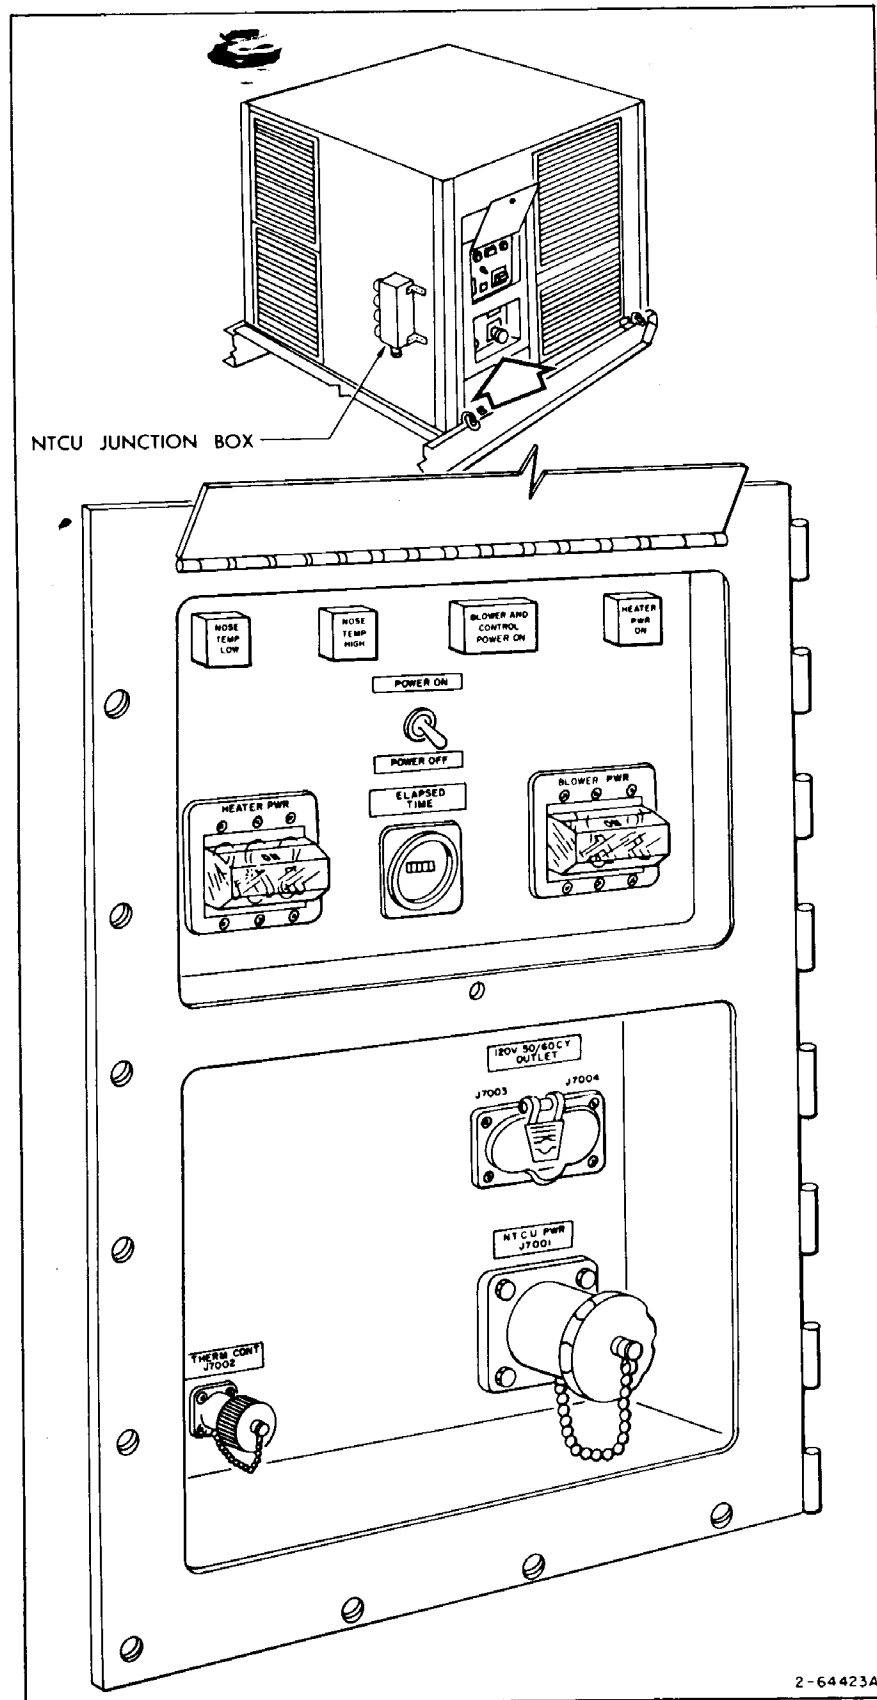

Figure 3-25. Nose Temperature Control Unit
3-81. SHUTTING DOWN NTCU. (See figure 3-25.)
h. Insure that MAIN POWER and HEATER PWR circuit breakers on NTCU control panel (figure 3-25) are ON.